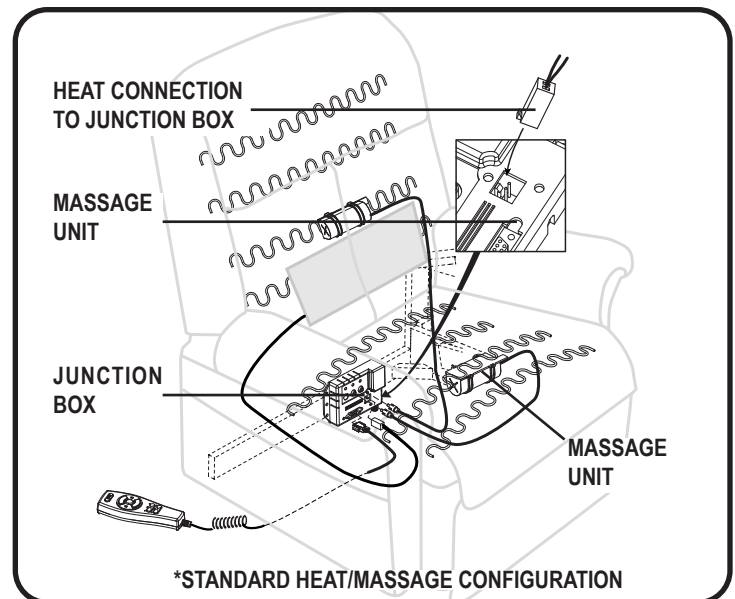

Figure 4.2 Harness Connections
4. Connect the hand control harness to the chair and heat/massage harnesses (if equipped) to the chair (fig 4.2).